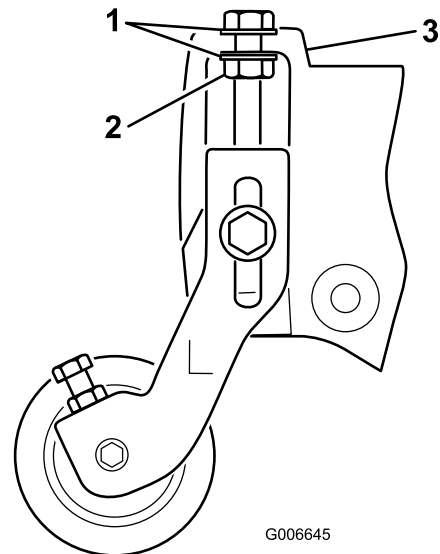

Figure 21
Note: The washers on the height of cut adjusting bolts must be located on each side of the flange on the side plate (Figure 21).
17. Tighten the locknut on the height of cut adjuster bolt until the washers contact the side plate flange, then back-off the nut 1/2 turn (Figure 21).